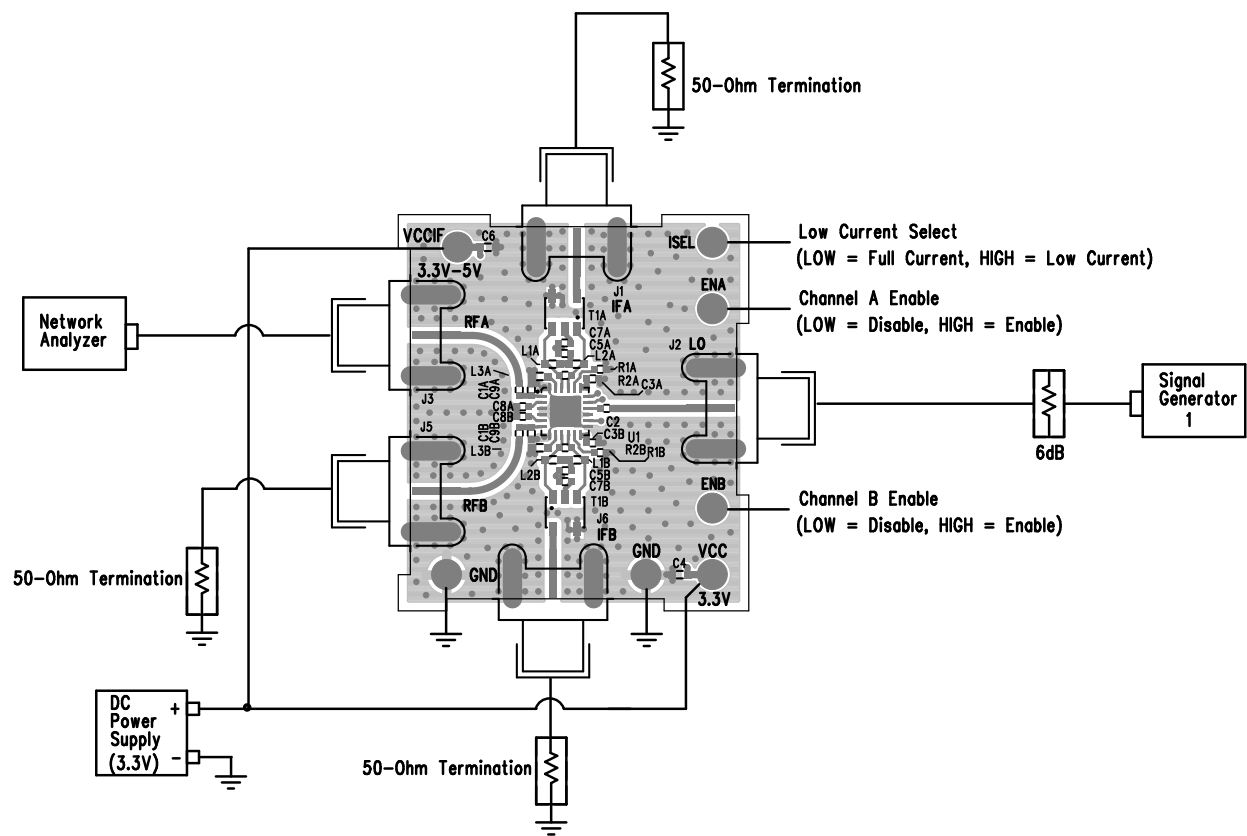
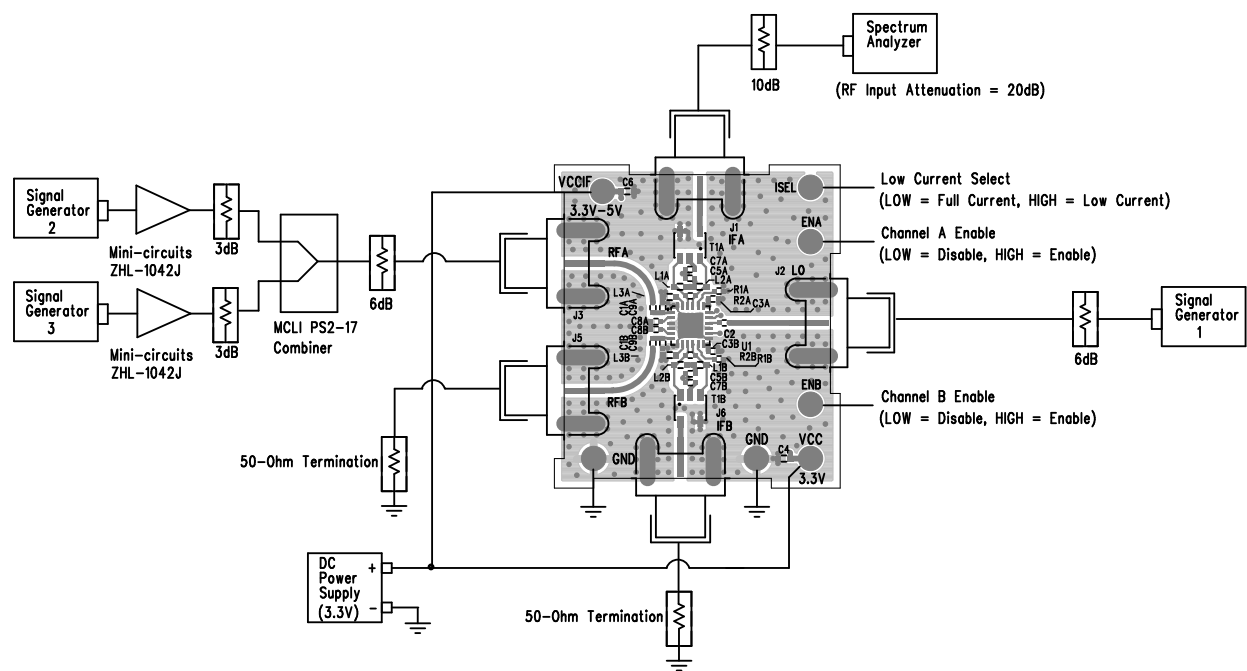
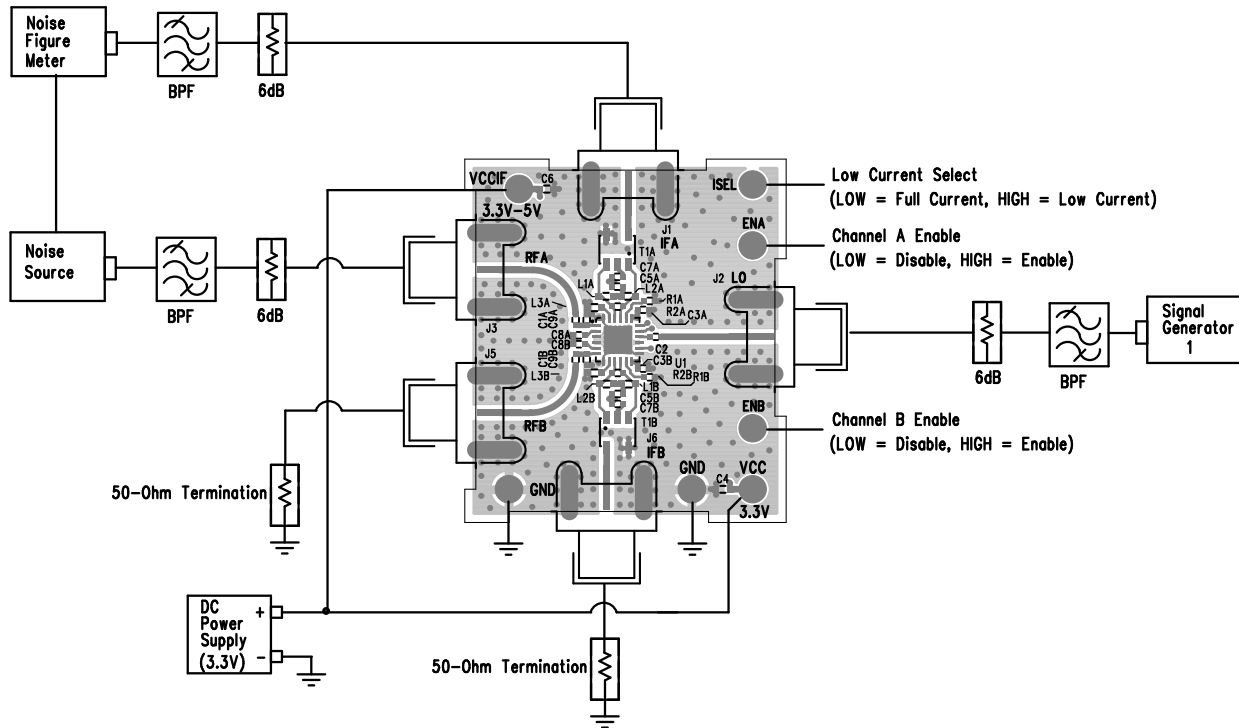

Figure 5. Proper Equipment Setup for Return Loss Measurements
Figure 6. Proper Equipment Setup for RF Performance Measurements
Figure 7. Proper Equipment Setup for Noise Figure Measurement
The LTC5590 is a dual high dynamic range downconverting mixer IC with very high input 3rd order intercept. Accuracy of its performance measurement is highly dependent on equipment setup and measurement technique. The recommended measurement setups are presented in Figure 5, Figure 6, and Figure 7. The following precautions should be observed:
The LTC5590 consists of high linearity passive double-balanced mixer cores and IF buffer amplifiers. Due to the bidirectional nature of all passive mixers the $\text{LO} \pm \text{IF}$ mixing products, also referred to as pseudo-image spurs, are always present at the RF input, typically at a level 12dB below the RF input signal. Mismatched impedances at the pseudo-image spur frequencies, such as when filters are used for SSB NF measurements, can significantly impact the linearity and noise figure measurements. To avoid interference from the pseudo-image spurs, terminate the RF input port with an isolator, diplexer, or attenuator. In the recommended measurement setups presented in Figure 6 and Figure 7, the 6dB attenuator pad at the demonstration circuit's RF input serves this purpose.
Demonstration circuit 1710A-A is easy to set up to evaluate the performance of the LTC5590. Refer to Figure 5, Figure 6, and Figure 7 for proper equipment connections. The following procedures describe performing measurements on Mixer Channel A. The measurement procedures for Mixer Channel B are identical.
3. Connect all test equipment as shown in Figure 5 with the signal generator and the DC power supply turned off.
1. Connect all test equipment as shown in Figure 6 with the signal generators and the DC power supply turned off.
2. Connect all test equipment as shown in Figure 7 with the signal generator and the DC power supply turned off.